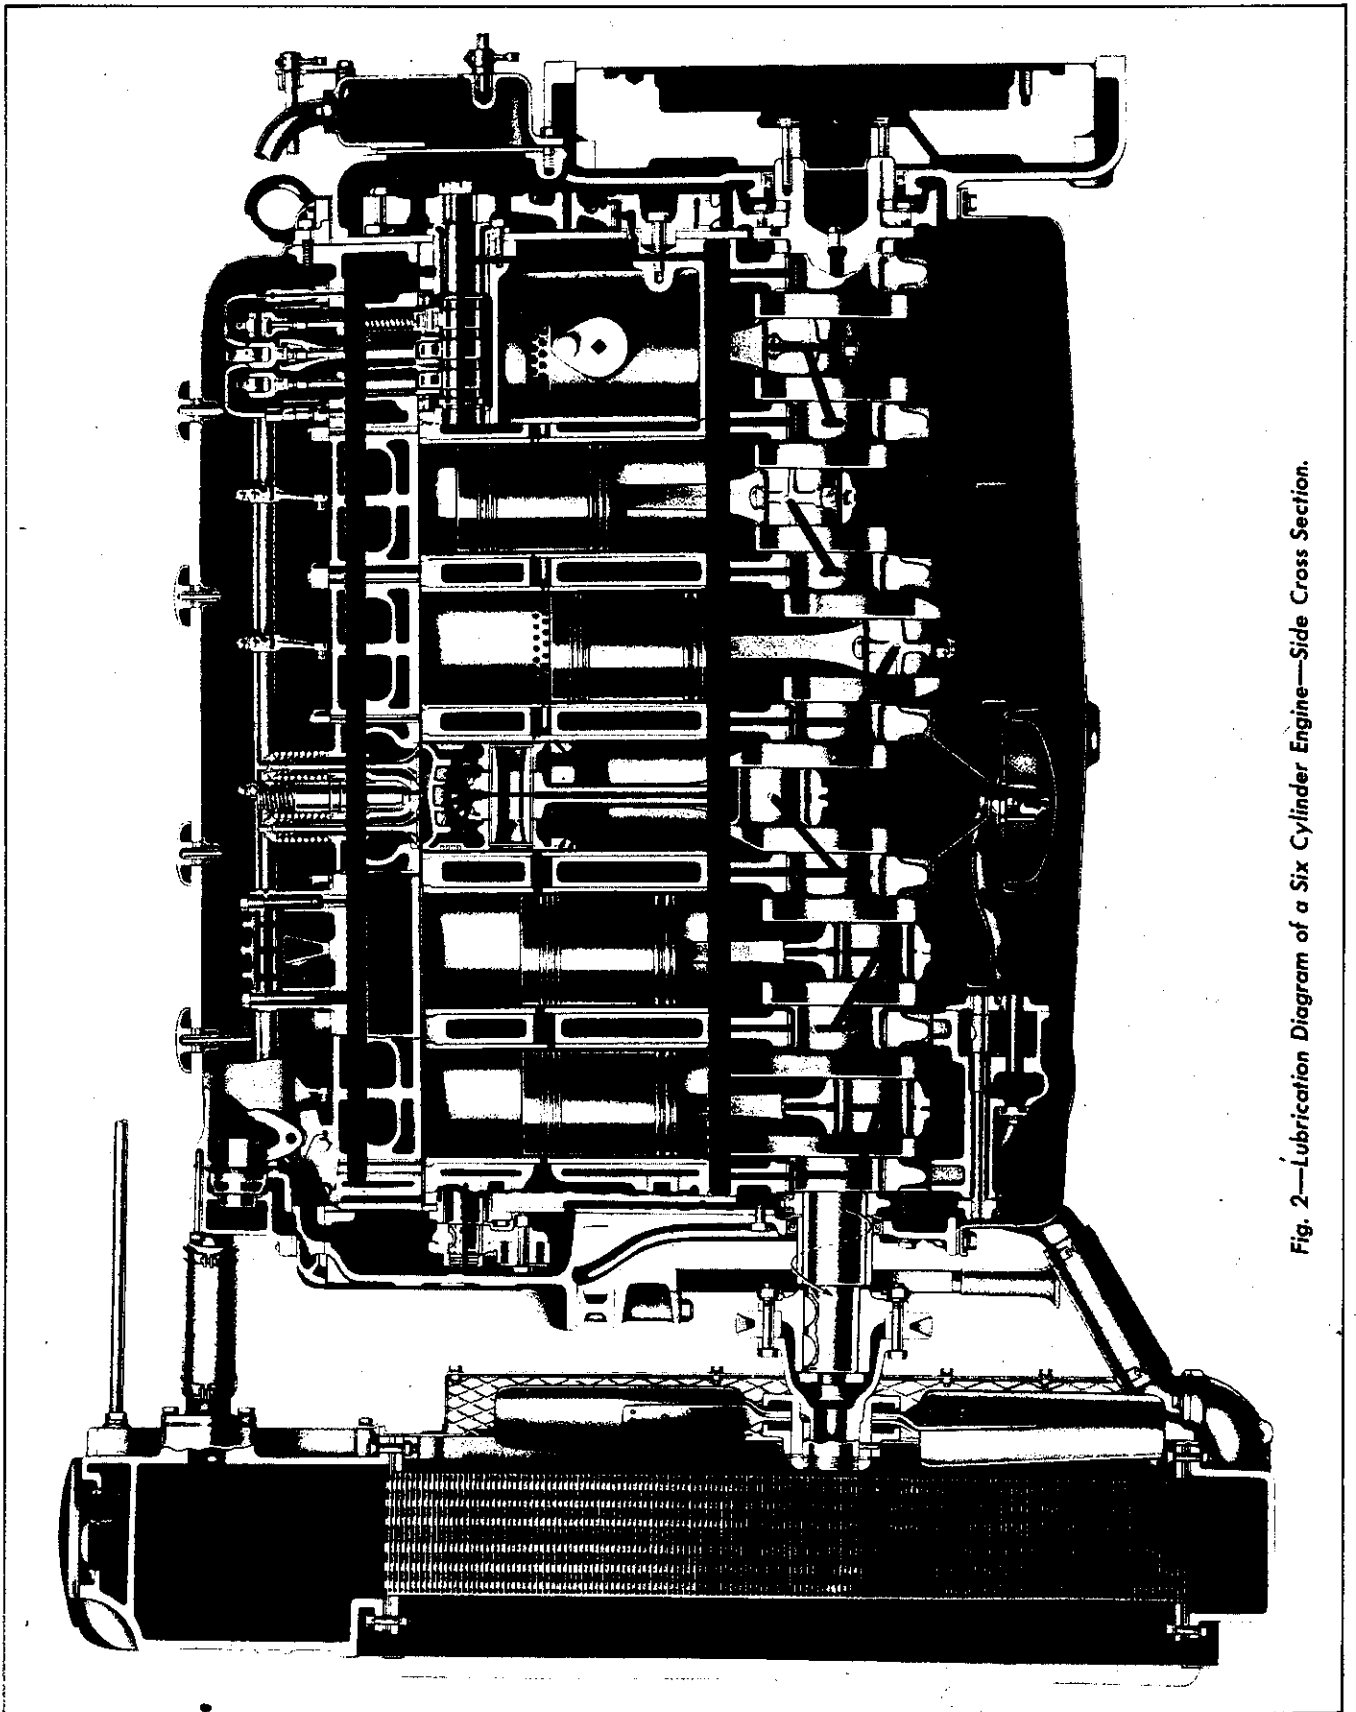

Fig. 2—Lubrication Diagram of a Six Cylinder Engine—Side Cross Section.
**Lubricating Oil Distribution Through Cylinder Block and Bearings**—Oil from the cooler is conducted by a vertical passage to a longitudinal main gallery on the blower side of the crankcase. As shown in Fig. 2, this gallery distributes the oil, under pressure, to the main bearings, and to a horizontal, transverse passage at each end of the cylinder block. From these two horizontal passages, two vertical bores at each end of the cylinder block carry the oil to the end bearings of the camshaft and balance shaft, as well as to the oil passage in the camshaft, which conducts the oil to the camshaft intermediate bearings.
Excess oil from rocker arms lubricates the valve ends and push rods and drains to cam pockets in cylinder head from which cams are lubricated. As shown in Fig. 2, after reaching a certain level, this oil overflows through two holes at each end of the blower housing, providing lubrication for blower drive gears at rear end and governor drive gear at the front. A dam in the blower housing cover maintains an oil level which submerges the teeth of the lower blower rotor timing gear. A slinger on the opposite end of lower rotor throws oil into the governor weight assembly. Surplus oil passes from the blower to the oil pan through drilled holes in cylinder block.